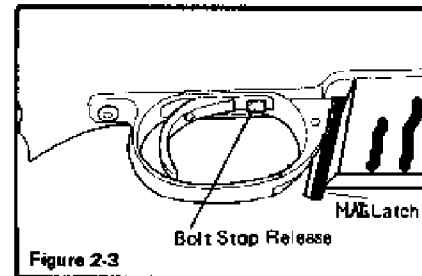

Figure 2-3
4. Inspect magazine for a round. (If a round is in the magazine, then press floorplate latch and drop round out of magazine see figure 2-3).
1. Push the bolt stop release up (see Figure 2-3).